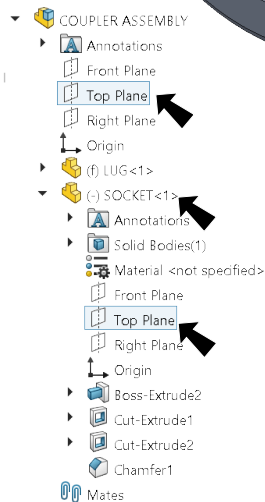

Fig. 8
Step 4. Expand the flyout Feature Manager design tree, click **Top Plane** , expand **Socket** and click **Top Plane** , **Fig. 8**.